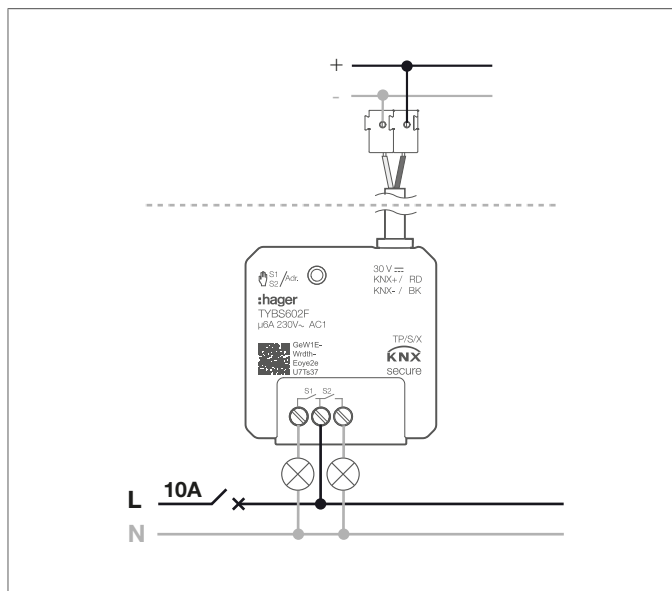
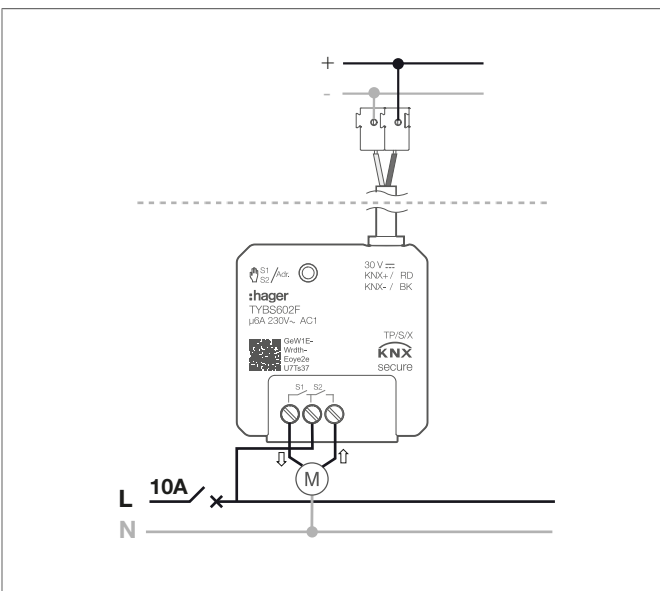

Fig. 3: TYBS602F lamp load connection diagram
Fig. 4: TYBS602F motor load connection diagram
- Connect the device according to the connection diagram ((Fig. 3: TYBS602F lamp load connection diagram) or (Fig. 4: TYBS602F motor load connection diagram)).